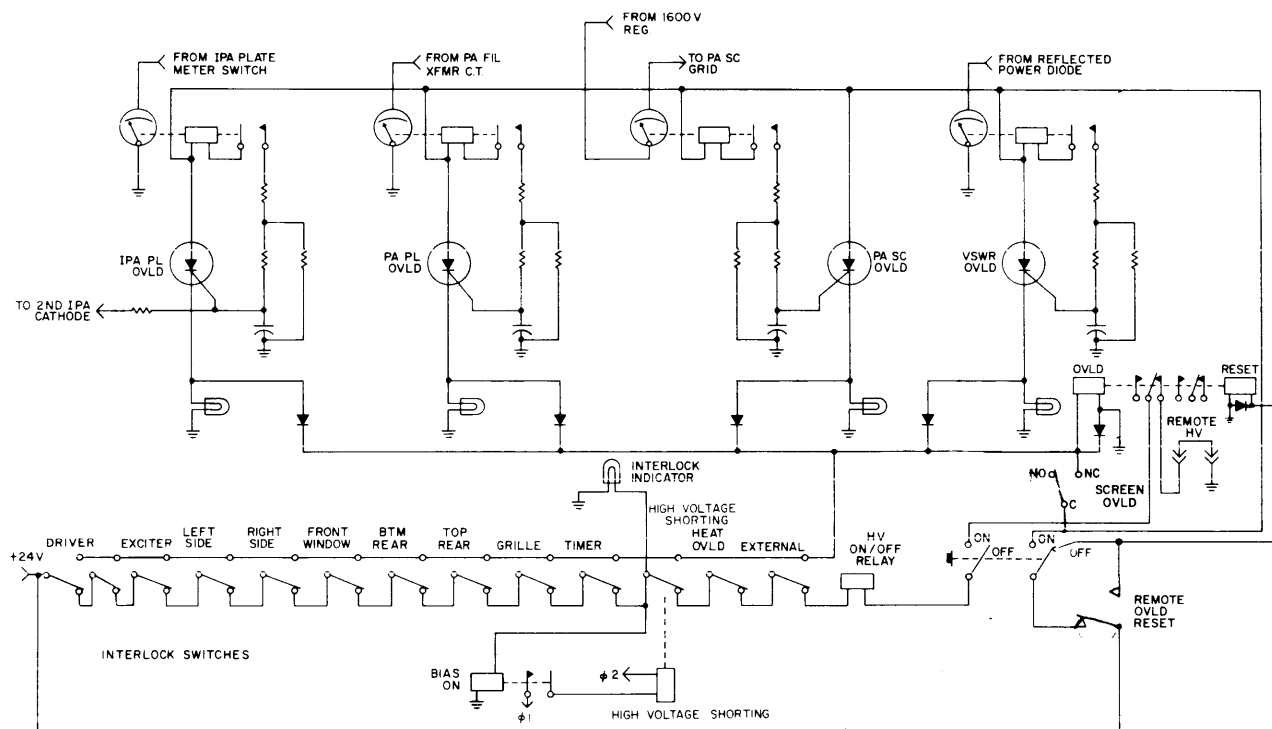

Figure 4-4. Protective Overloads and Interlocks
a. Protective Overloads and Interlocks. (Refer to Figure 4-4.) -
(1) General - The interlock and overload circuitry of the HFLM provides protection for the equipment and operating personnel. An open interlock or overload condition will de-energize K2004, the HV ON/OFF relay.
(2) Simplified Circuit Analysis - The regulated 24 vdc interlock voltage is routed through the mechanically closed interlocks to the filament timer interlock. When the time delay of the Filament Timer has expired it's contacts close and the 24 vdc energizes the bias on relay which in turn energizes the HV shorting relay. Contacts on the HV shorting relay route the 24 vdc to one side of the HV on/off relay through the normally closed contacts of the heat overload and external interlocks. The HV on/off relay is energized when the HV ON/OFF switch is depressed, providing a path thru the reset contacts of the Main Overload relay and thru the Remote HV on/off provision to ground. The HV on/off relay provides phase 3 to K801, the HV contactor coil. When K801 energizes, a ground is provided for the remote and local HV lights. The normally